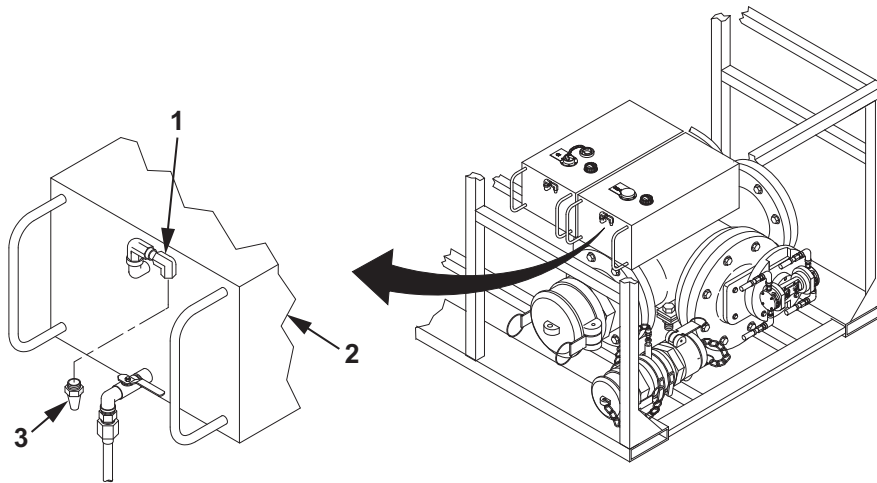

Figure 1. CI and SDA Additive Tank Vent Filters Disassembly.
3. Remove drain pan under vent filter (Figure 1, Item 3) and dispose of contents per local procedures.
1. Using a cleaning cloth dampened with solvent cleaning compound, clean vent filter (Figure 1, Item 1) free of all dirt and debris.